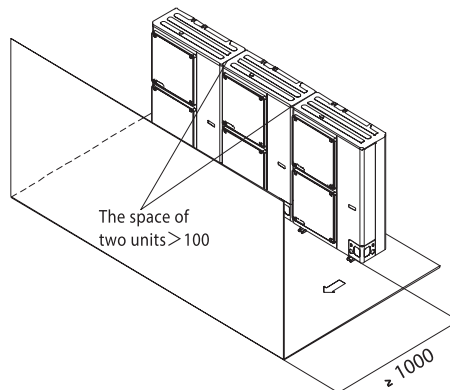

Figure 8
- b. Group units installation (more than two units) (see Figure 8)